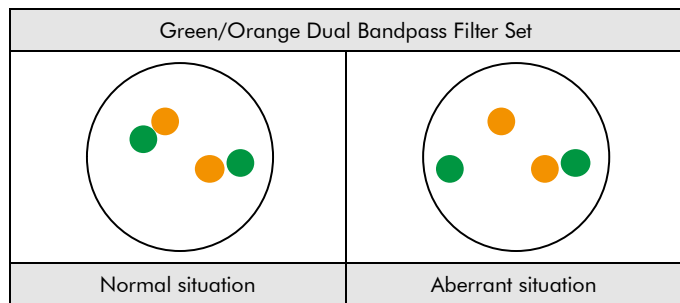

Fig. 2: Expected results in normal and aberrant nuclei
**Normal situation:** In interphases of normal cells or cells without a translocation involving the PHF1 gene region, two green/orange fusion signals appear (see Fig. 2).
**Aberrant situation:** One PHF1 gene region affected by a translocation is indicated by one separate green signal and one separate orange signal (see Fig. 2).